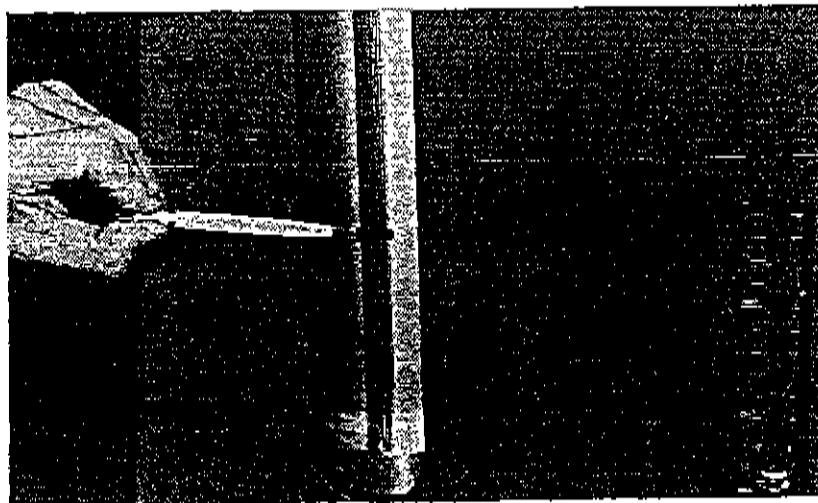

Fig 2
- Close the manual shut-off valves completely (pos 24 and 25 page 15).
- Press the process button CHARGING (pos 18 page 11).
- First you have to read the refrigerant amount on the scale of the internal cylinder. Secondly, the marking of the required amount has to be set (fig 2) and the manual shut-off valve (pos 24 page 15) is opened. When the correct charging amount has been reached (please note that small amounts do not take long), the manual shut-off valve is closed again.
- When the outlet valve (pos 24) has been closed, you have to wait another 30 seconds before the hoses can be dismantled. This is done to make sure that the refrigerant gets into the air-conditioning system.
- After dismantling the hose from the air-conditioning system, the manual shut-off valve (pos 24 page 15) is opened, the RECOVERY/RECLAIM button (pos 15 page 13) is actuated and you must wait until the RECOVERY lamp extinguishes. The hoses are now drained of refrigerant. Close the manual shut-off valve again.